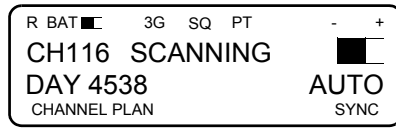

Figure 3-15. 3G Scanning Screen
The principal differences between the KDU screens displayed in 3G Mode operation and the screens displayed in the other modes appear on the top-level screens. To enter 3G Mode mode, press the **[MODE]** key on the KDU until 3G is displayed then press **[ENT]**. The R/T will now enter into 3G Mode and the 3G scanning screen will be displayed. Figure 3-15 depicts the 3G scanning screen. The items displayed on this screen are as follows:
- The far-right portion of the second line is used to display a sync meter directly below the text “- +”. After acquiring synchronization, the radio has a definite period of time which it can be relied upon to remain in synchronization, even if it does not receive any TOD updates during this time period. Specifically, an R/T without GPS remains synchronized for a minimum of 20 minutes while it is powered off, and more than 48 hours while it is powered on. The width of the bar in the sync meter display indicates what fraction of this time remains before the radio can no longer be assumed to be in sync. Immediately after the R/T is synchronized, the bar occupies the full width of the sync meter display. When the bar disappears, the R/T is no longer reliably synchronized. The bar width shown in Figure 3-15 indicates that roughly 60% of the sync reliability interval remains. This is how the display would appear if the R/T was synchronized, powered off